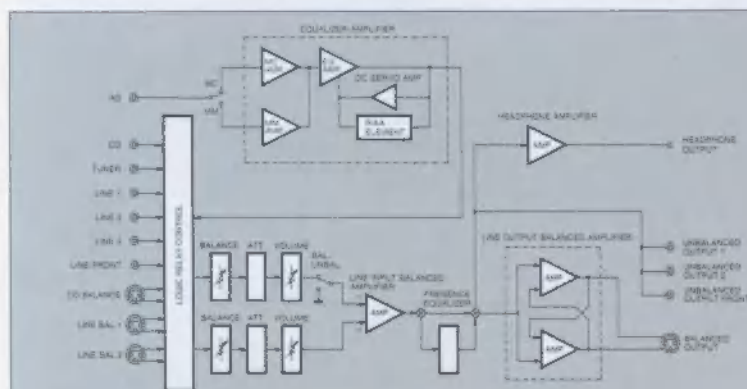
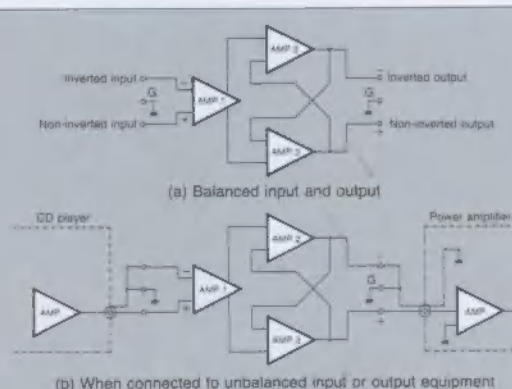

Fig. 1 Circuit block diagram of C-260 (one channel)
Fig. 2 Balanced line amplifier stage
Fig. 1 is a circuit block diagram of the C-260. The simplified functional explanation of the balanced line amplifier stage is shown in Fig. 2. As shown, AMP2 and AMP3 complement each other's operation. As a result, no common ground (G) exists in the circuit, thus forming an ideal amplifier circuit, when
As shown in the block diagram of Fig. 1, the C-